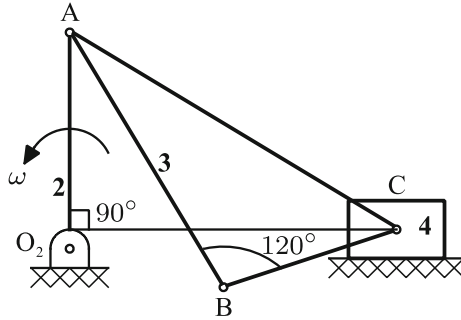

Fig. 2.61 A crank mechanism
25. In the crank mechanism of Fig. 2.61, point B is a point on interface 3. In the shown state in the figure, what is the velocity of point B ? ($AB = BC$)